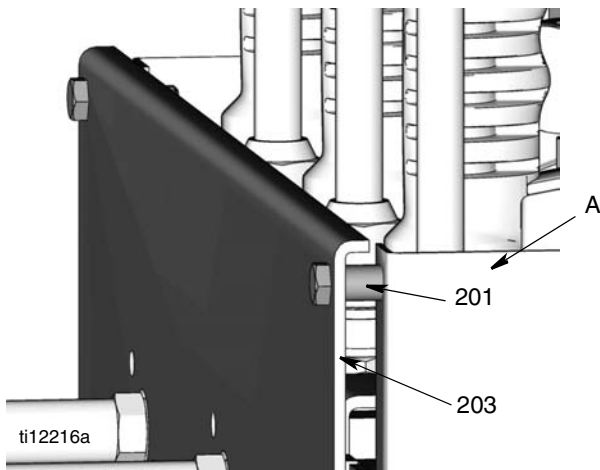

FIG. 1
1. To retrofit an existing oil bar to accommodate Matrix meters, install spacers (201) between oil bar (A) and front panel (203) (FIG. 1).